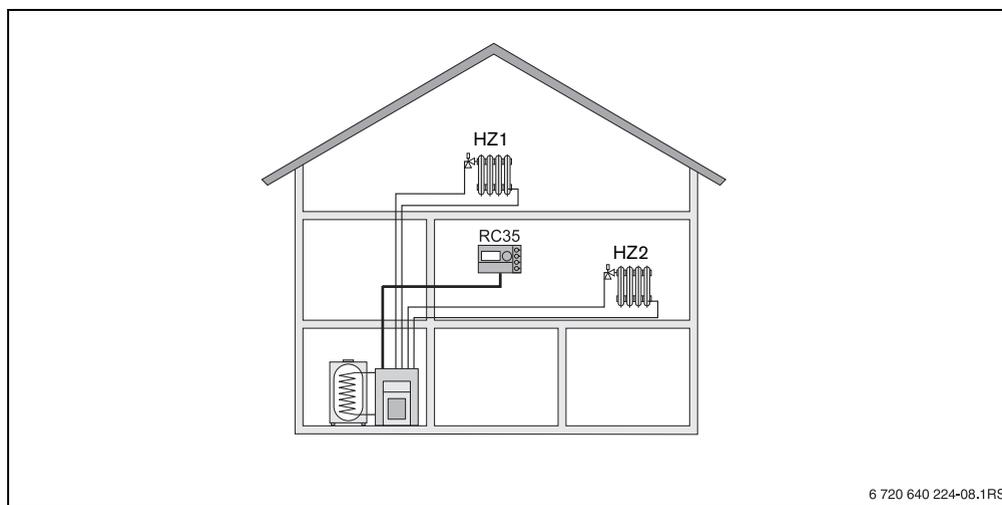

Fig. 2 Options for a heating system with two heating zones
- As the only user interface in a heating system with two or more heating zones (→ Fig. 2).